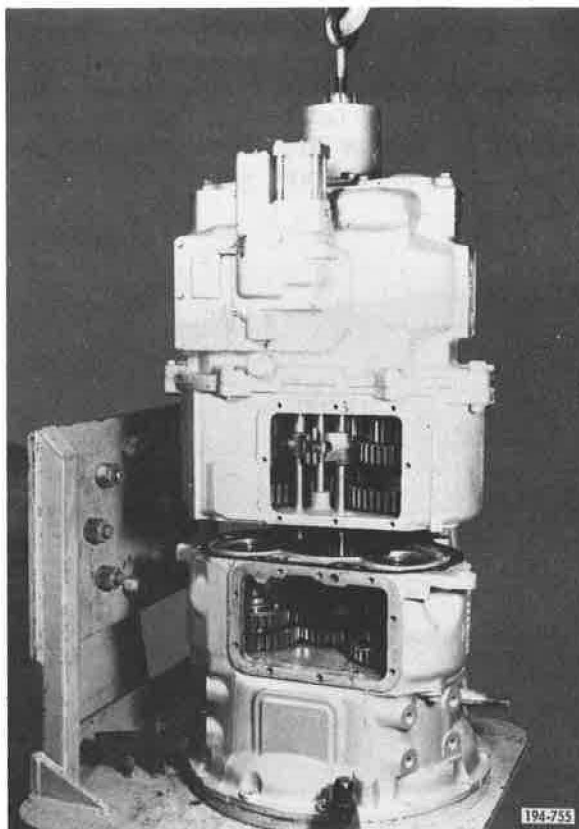

Figure 403. Installing Main Case and Rear Case
21. Install a new gasket, and then install rear compound and main box to front compound, using a hoist and a lifting eye. See Figure 403.